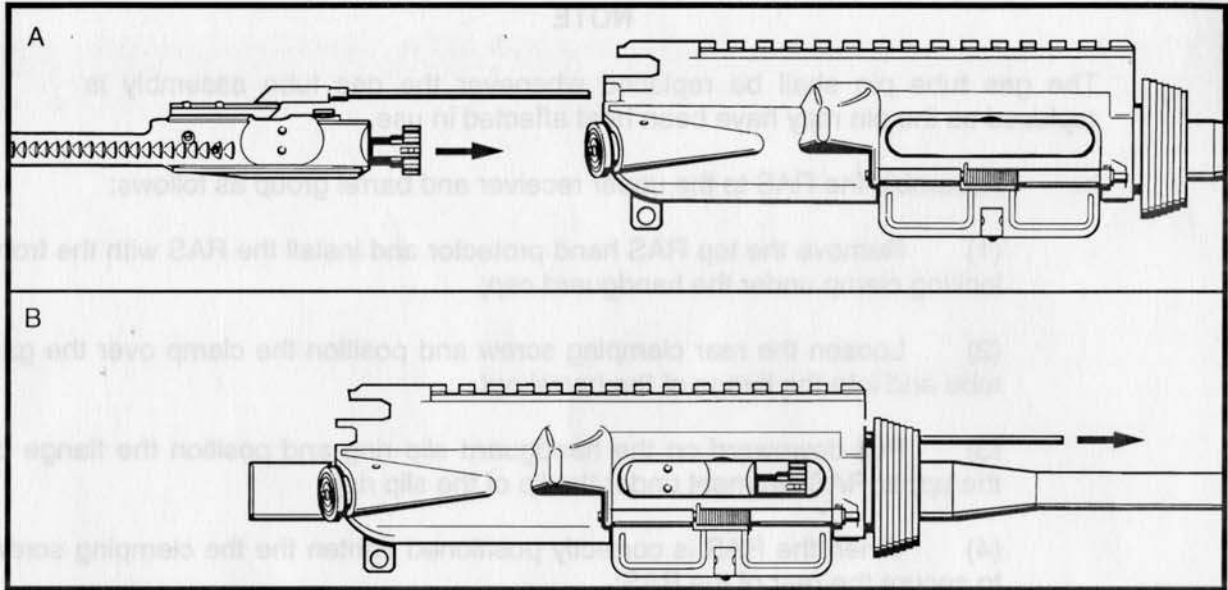

Figure 3-2-21 Using the Barrel Nut Alignment Tool
- (1) Insert the alignment tool in the bolt carrier key and insert the bolt carrier into the upper receiver from the rear. See Figure 3-2-21;